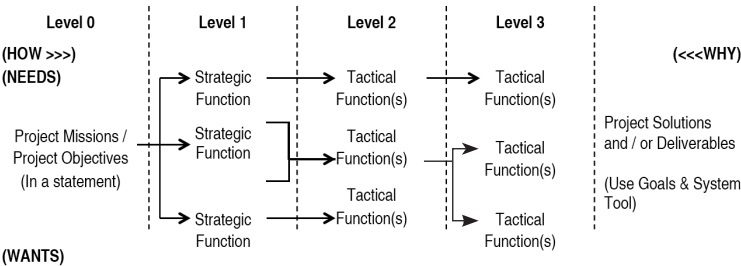

Figure 3.3 Strategic FAST Diagram (Adapted from Kelly, Male & Graham, 2004)
- List the required functions taken from the far right of tactical function of the Strategic FAST Diagram (at Level 2 or Level 3 as indicated in Figure 3.3). The listed tactical functions are identified as “Goals”.